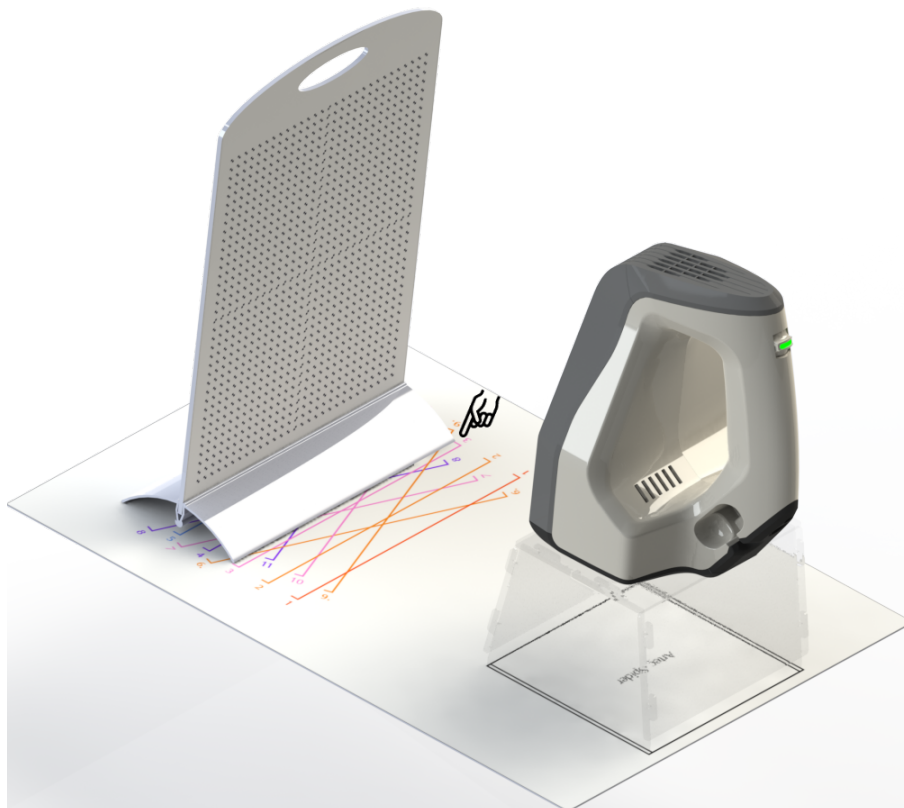

Figure 11.8: Calibration rig, pattern and scanner stand with Artec Spider.
4. Set the calibration rig on the pattern, turning its marker side toward the scanner as Figure 11.8 shows.